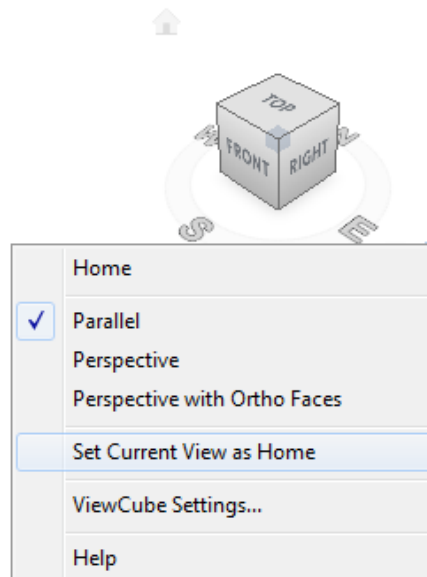

Figure Step 6
Step 6 In the pull-down menu, click Set Current View as Home. (Figure Step 6)